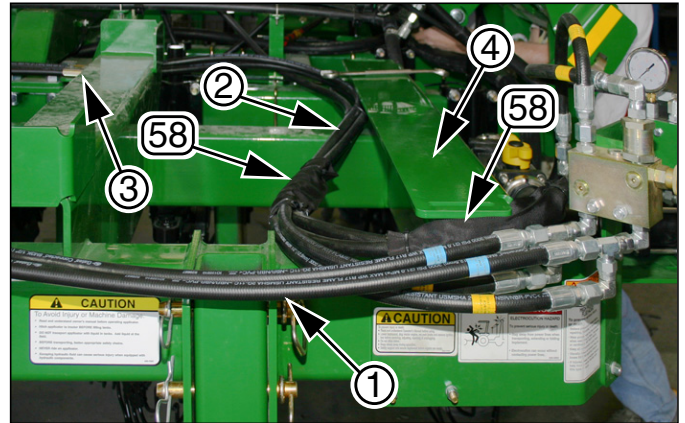
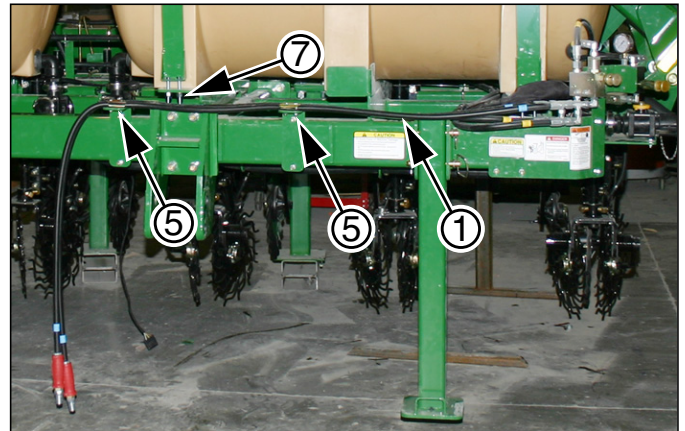

Figure 18
Figure 19
Refer to Figure 18, which, for clarity, depicts the sub-frame without tanks. It also depicts the hoses ① to the hitch, installed at step 6.
3. Route the valve hose bundle ② from the main frame clamp ③ along the left-most tank support ④. Keep all of the hose bundle at or below the surface level of all tank supports.
⑤8 816-480C HOSE WRAP 3.0-4.5 X 24LG VELCR
Refer to Figure 18 and Figure 19